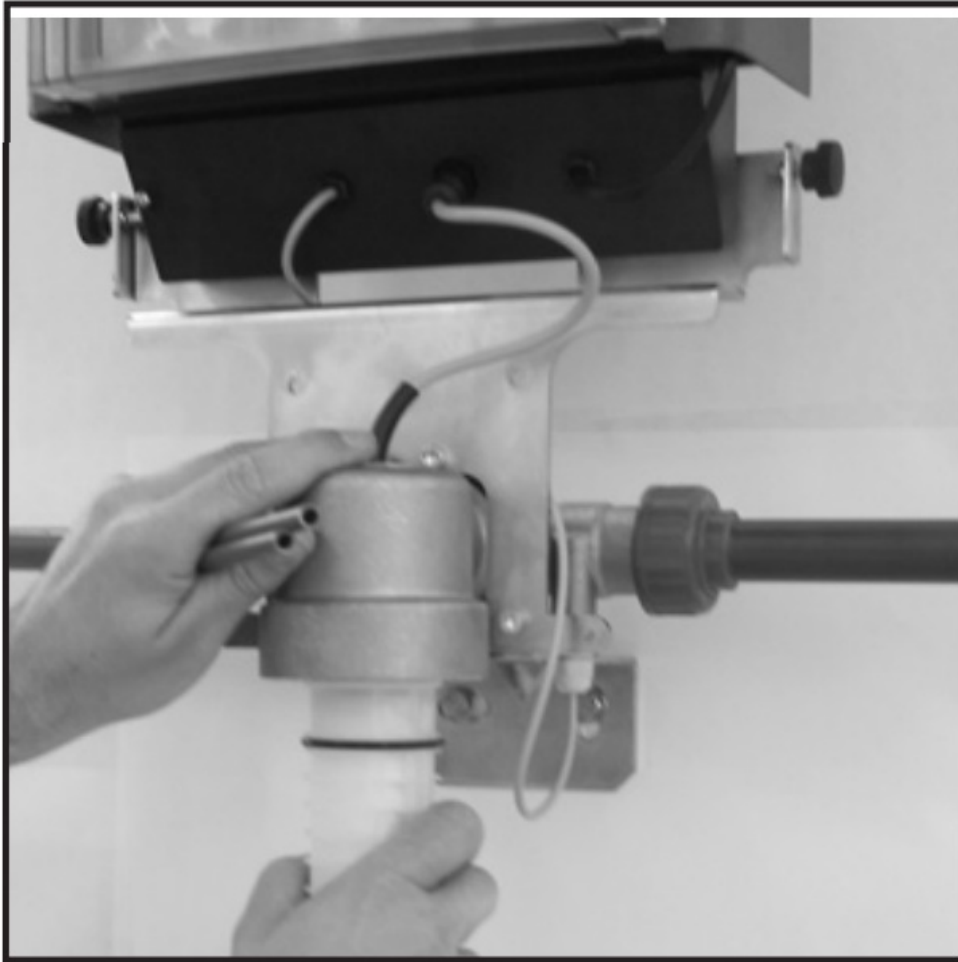

Fig. 19
- **VIII.** Now push the limescale protection unit until it clicks over the electrodes (see Fig. 19).